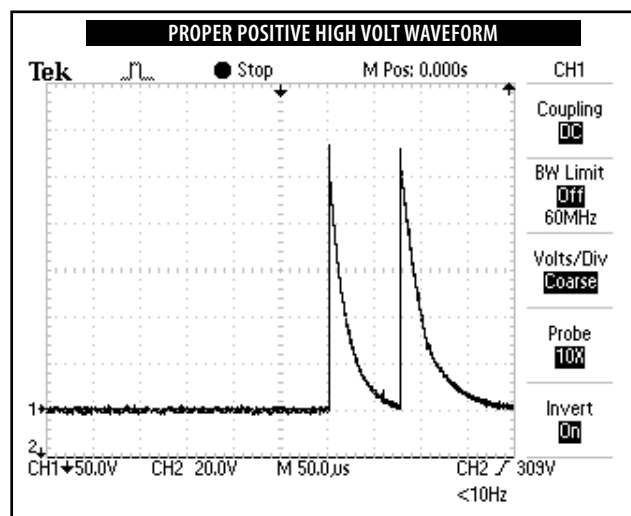

FIGURE 5.13
9. Compare waveform form on scope to Figure 5.13.